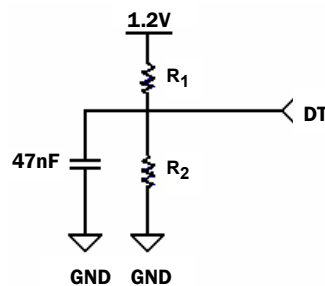
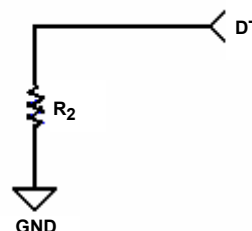

FIGURE 33A.
FIGURE 33B.
The QLx4600-SL30 is capable of maintaining periods of line silence on any of its four channels by monitoring each channel for loss of signal (LOS) conditions and subsequently muting the outputs of a respective channel when such a condition is detected. A reference current applied to the detection threshold (DT) pin is used to set the LOS threshold of the internal signal detection circuitry. Current control on the DT pin is done via one or two external resistors. Nominally, both a pull-up and pull-down resistor are tied to the DT pin (Figure 33A), but if adequate control of the supply voltage is maintained to within $\pm 3\%$ of 1.2V, then a simple pull-down resistor is adequate (as in Figure 33B). Resistors used should be at least 1/16W, with $\pm 1\%$ precision.
The internal bias point of the DT pin, nominally 1.05V, is used in conjunction with the voltage divider (R_1 and R_2) shown in Figure 33A to set the reference current on the DT pin.
For channels exhibiting more than 25dB of total loss (this includes cable or FR-4 loss) the DT pin should be configured for a reference sink current (coming out of the DT pin) of approximately 2 μ A. A typical configuration for a 2 μ A sink current is given in Figure 33C. If the configuration in Figure 33B is utilized, a 525k Ω resistor would be used.